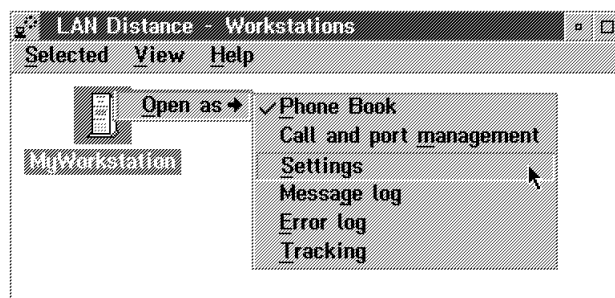

Figure 115. Open Notebook
1. Select the icon representing your LAN Distance Connection Server, with the right mouse button (see Figure 115).